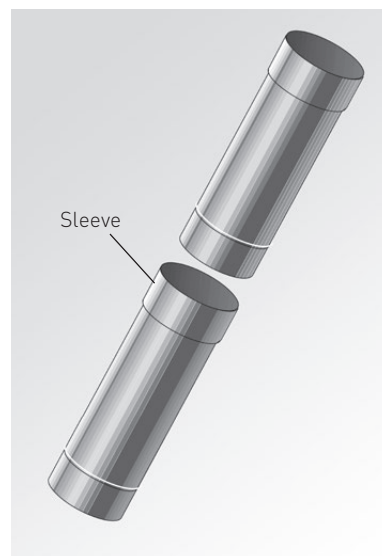

Fig. 42 Stainless steel exhaust pipe
g) Always fit exhaust pipes together with the sleeve pointing upwards (smaller diameter end of stainless steel flue accessory fits exactly onto flue outlet in FireWIN), so that any condensation flowing back cannot leak out of the exhaust pipe – Fig. 42.